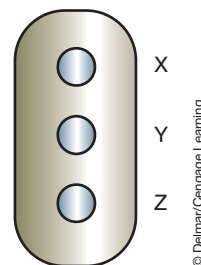

FIGURE 14-41 Generator connector terminal identification.
3. Refer to the diagram (Figure 14-41) and measure the voltage as follows: